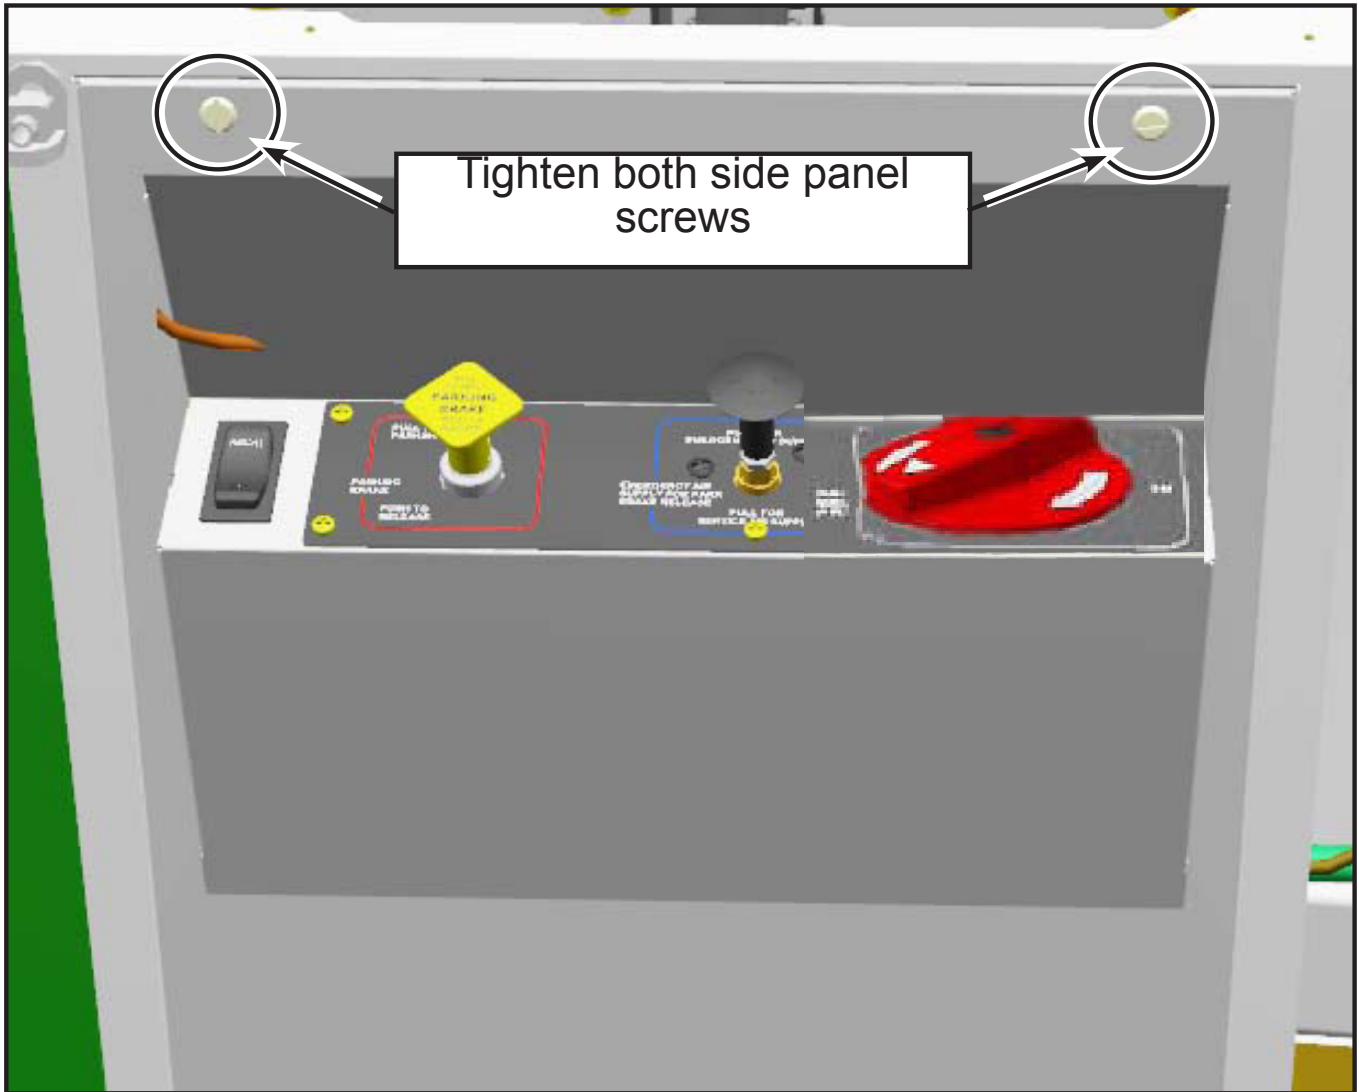

Figure 12 - Tighten Both Side Panel Screws
- 1.13. Place the side panel back in place and tighten both side panel screws (see Figure 12).